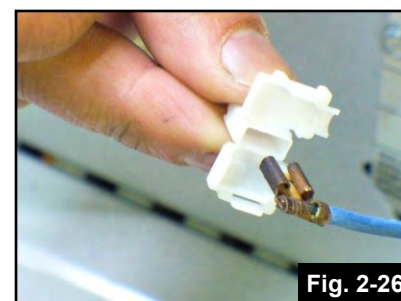

Fig. 2-26
4. Apply the provided white insulating sleeve for straight-type female terminal to the female connector on the wire coming from the front-left element. If the female connector on the element wire is a flag-type, use the white insulating sleeve for flag-type female terminals. Connect the insulated male terminal of BLUE relay extension wire provided to this insulated female terminal of the element wire. (Fig.2-26)